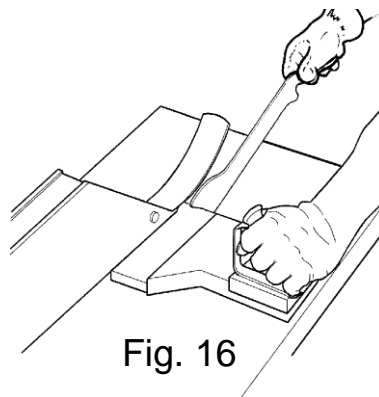

Fig. 16
- **Use pushers at the same time** to avoid the risk of injury(Fig.16).